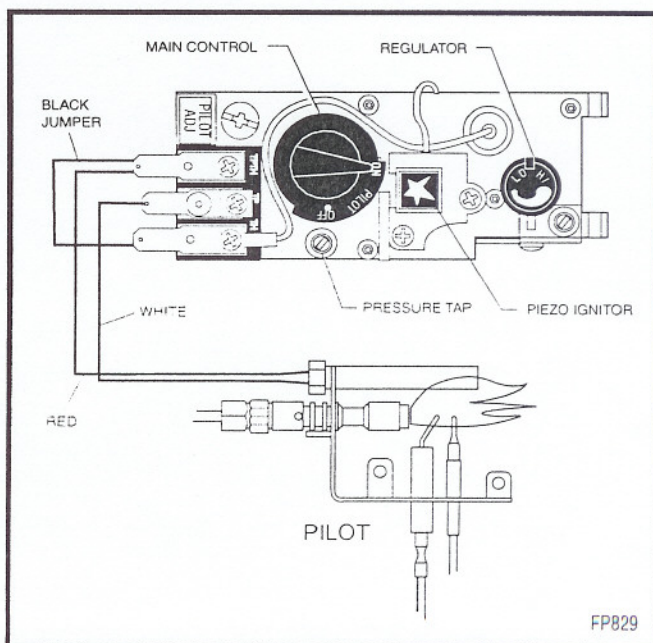

Fig. 10. Honeywell valve and pilot assembly.
4. Push in gas control knob slightly and turn clockwise ↻ to OFF. See figure 10.